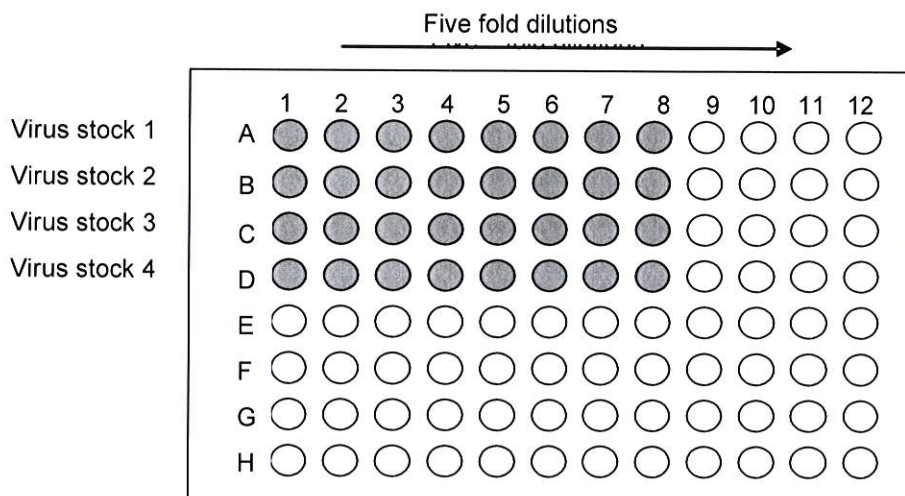
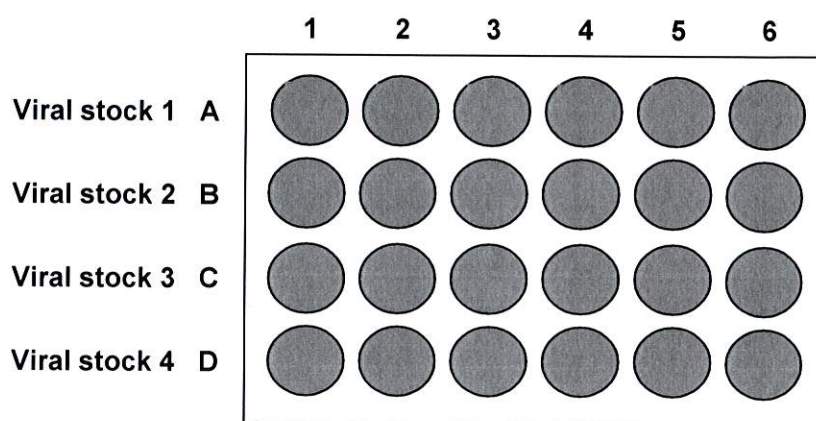

Figure 12. Five-fold serial dilutions of virus stock.
Figure 13. Twenty four well tissue culture plate, seeded with TLA-HEK293T™ cells, used to titer the virus.
2. Make dilutions of the viral stock in a round bottom 96 well plate using serum-free media. Utilize the plate as shown in Figure 12 using one row for each virus stock to be tested. Use the procedure below (starting at step 4) for dilution of the viral stocks. The goal is to produce a series of 5-fold dilutions to reach a final dilution of 390625-fold.
- Label 24 well plate as shown in Figure 13 using one row for each virus stock to be tested.
11. Transduce cells by adding 25µl of diluted virus from the original 96 well plate (Figure 12) to a well on the 24 well destination plate (Figure 13) containing the cells.